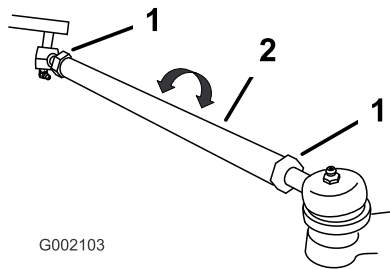

Figure 33
5. If the measurement does not fall within 0-6 mm (0-1/4 inch), loosen the jam nuts at both ends of the tie rods (Figure 33).